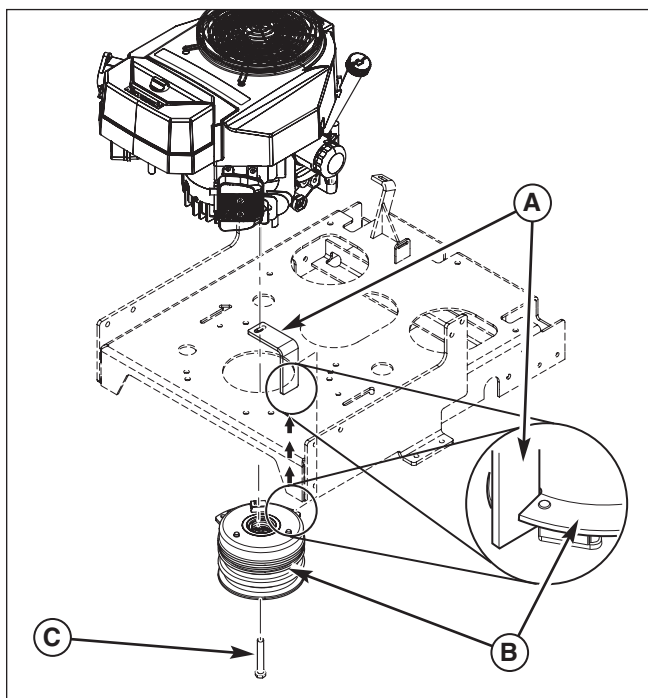

Figure 37. Remove the PTO Clutch
3. Loosen and remove the crankshaft bolt (C, Figure 37) and the PTO clutch (B) from the engine crankshaft.
6. Reinstall the spring anchor eyebolt (G) into the anchor tab and loosely fasten the nut. Adjust the anchor eyebolt until a measurement of 8-3/8" (21,2 cm) is achieved from the outside of the spring hooks. Tighten nut.
**NOTE:** Make sure that the slot in the PTO clutch lines up with the PTO clutch mounting tab (A, Figure 37) underneath the engine deck.